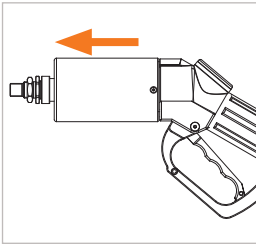

Figure 10
- ▶ Push the fueling nozzle onto the receptacle on the vehicle until it stops and hold the nozzle in this position (OFF position) (Figure 10).